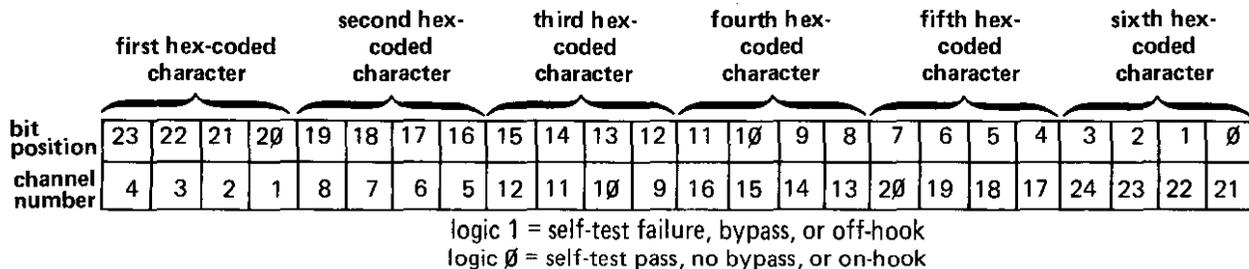

figure 12. Bit map for self-test status (*T*), bypass status (*E*), and T1 signaling status (*J*) commands
5.08 The *self-test result* command (*T* character) provides a means of determining whether a channel passes self-testing. When the *T* command is entered with a channel specified, the 251 System first returns the System unit number and channel number (using the protocol described in paragraph 5.03). The 251 System then returns a *P* character if the channel passes self-testing or an *F* character if the channel fails self-testing. If the *T* command is entered with channel 00 specified, the 251 System returns, instead of a single *P* or *F* character, six hex-coded characters that contain the self-test status for all channels. To interpret this information, take the first character as a hex digit, convert it to binary, and map it into the first character position in the bit map in figure 12. Then, using the appropriate character positions, repeat this for the remaining five characters. The correspondence between bit position and channel number is shown in the figure. A logic 1 indicates a self-test failure; a logic 0 indicates a self-test pass.
5.09 The *bypass status* command (*E* character) provides a means of determining whether channels are effectively bypassed. When the *E* command is entered (channel number 00 must be specified), the 251 System first returns the System unit number and channel number (using the protocol described in paragraph 5.03). The 251 System then returns six hex-coded characters that contain the bypass status for all channels. To interpret this information, take the first character as a hex digit, convert it to binary, and map it into the first character position in the bit map in figure 12. Then, using the appropriate character positions, repeat this for the remaining five characters. The correspondence between bit position and channel number is shown in the figure. A logic 1 indicates that the channel is effectively bypassed; a logic 0 indicates that it is not bypassed.
5.10 The *T1 signaling status* command (*J* character) provides a means of determining channels' on-hook/off-hook status. When the *J* command is entered (channel 00 must be specified), the 251 System first returns the System unit number and channel number (using the protocol described in paragraph 5.03). The 251 System then returns six hex-coded characters that contain the on-hook/off-hook status for **all** channels. To interpret this information, take the first character as a hex digit, convert it to binary, and map it into the first character position in the bit map in figure 12. Then, using the appropriate character positions, repeat this for the next five characters. The correspondence between bit position and channel number is shown in the figure. A logic 1 indicates that the channel is off-hook; a logic 0 indicates that it is on-hook.
Example 3: To obtain the bypass status for all channels of Sytem unit 4, send the following characters in the order given: *d*, 0, 0, *E*. The 251 System returns the following characters: *d*, 0, 0, *F*, 0, *A*, 5, 1, 8. The corresponding bypass bit map is 111100001010010100011000, indicating that the following channels are bypassed: 1, 2, 3, 4, 10, 12, 13, 15, 17, and 24 (refer to figure 12).